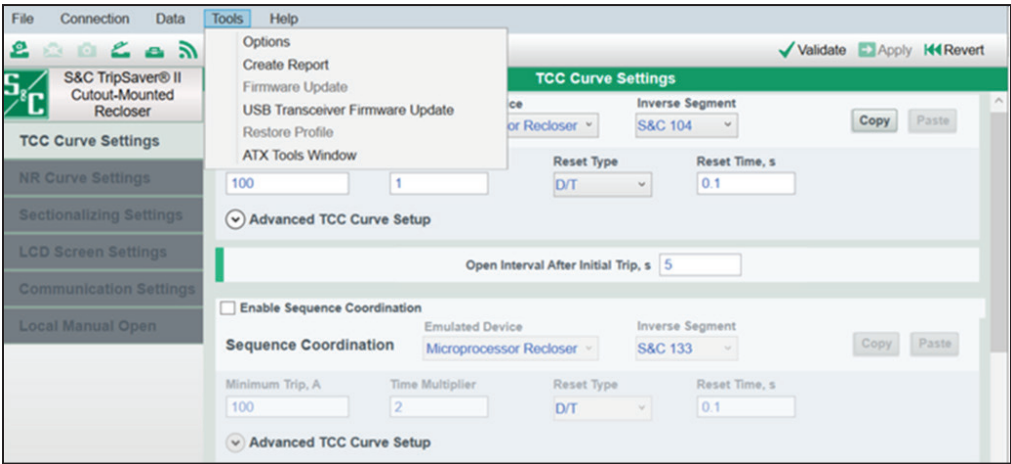

Figure 7. USB Transceiver Firmware Update menu item under the Tools menu.
- STEP 2.** Select the **Tools>USB Transceiver Firmware Update** option from the **Main** menu. See Figure 7.